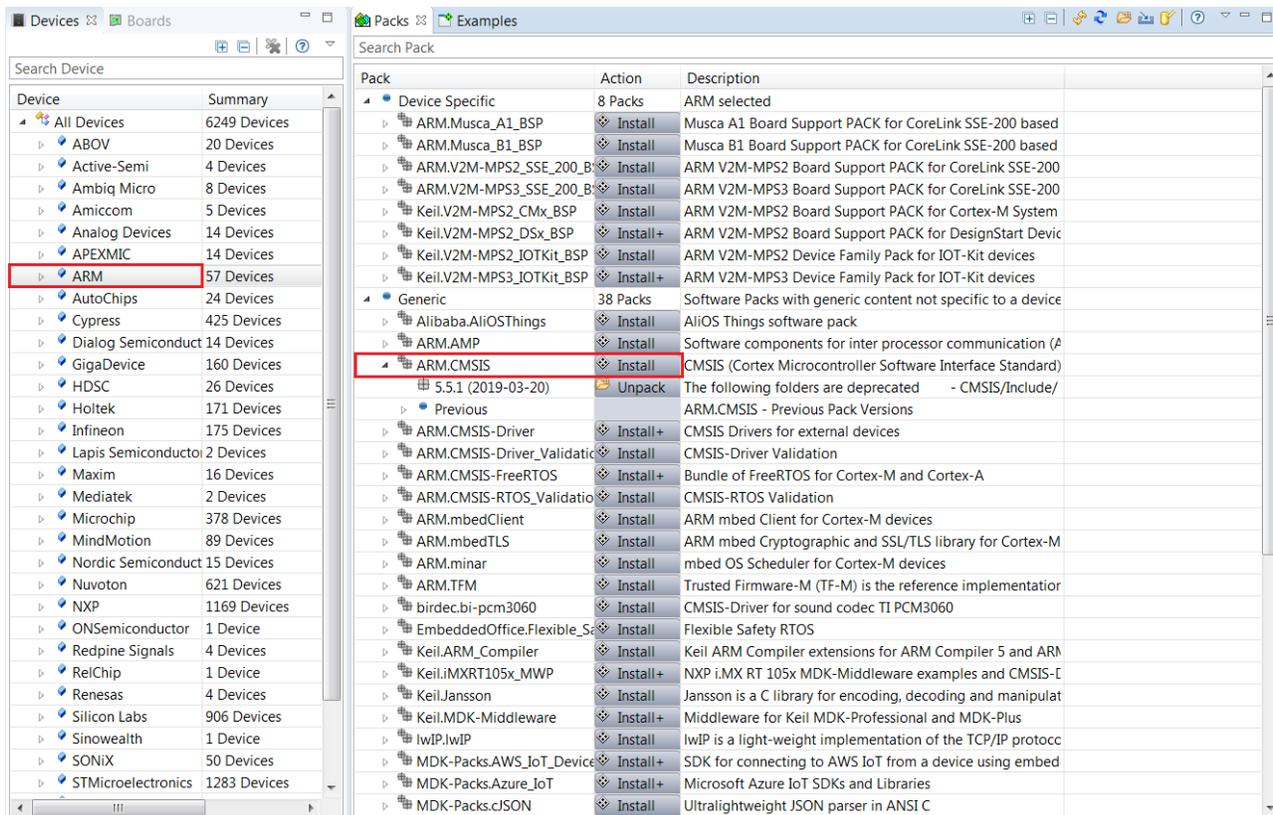

Figure 46. Installing the Arm CMSIS-Pack
The "Installing the Arm CMSIS-Pack" figure (Figure 46) shows an example of the Packs tab after checking for updates.
- To manually install a CMSIS-Pack, select the **Packs** tab and search for the required CMSIS-Pack (in this example, we installed the **ARM.CMSIS** pack); click the **Install** button (shown in the "Installing the Arm CMSIS-Pack" figure (Figure 46)). Alternatively, follow the next steps to automatically resolve any Pack dependencies that are missing.